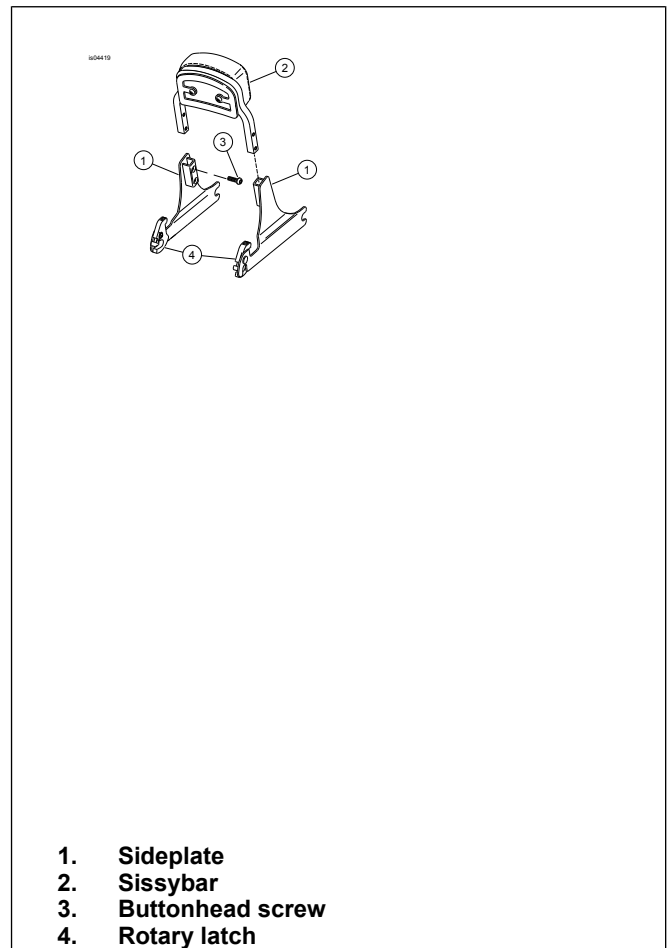

Figure 1. Detachable Sissybar Sideplate Assembly
- See Figure 1. Install the new or existing sissy bar (2) to the detachable sideplates (1) using four buttonhead screws (3) from the kit. Apply Loctite 243 (blue) to the screw threads before installation. Tighten the screws to 11–14 N·m (96–120 in-lbs).